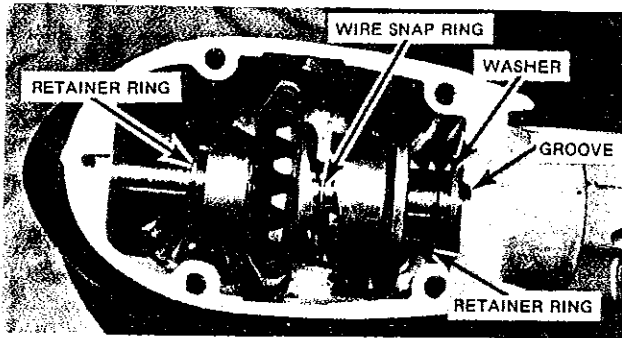

Figure 6. View of gear case.
- F. Remove rear retaining ring from groove using "Tru-Arc" pliers (#L152) and move snap ring forward on propeller shaft (Figure 6).
- H. Slide propeller shaft and dog clutch rearward so wire snap ring is exposed and remove snap ring from propeller shaft (Figure 6).
- K. Turn propeller shaft so key is aligned with groove shown in Figure 6.